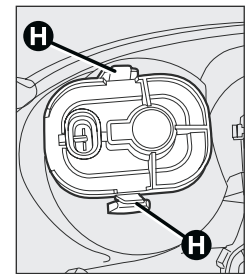

fig. 16
- to replace the rear fog light, release the clips **H**-fig. 16 , remove the protection and replace the bayonet bulb.